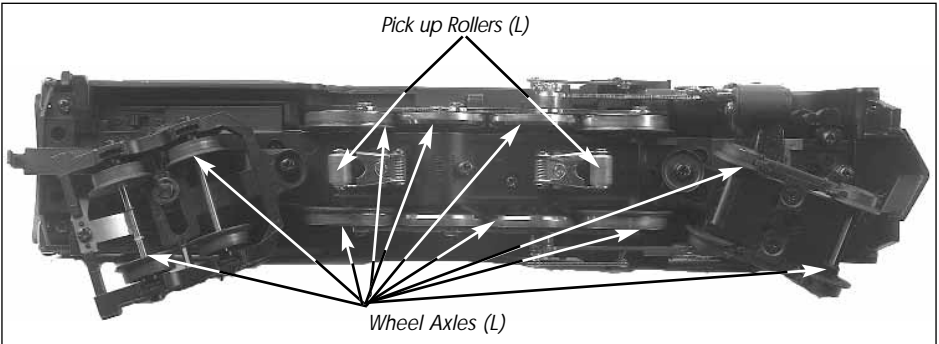

Figure 2 - Lubrication Points on the Engine
3. You should lubricate all side rods and linkage components and pickup rollers to prevent them from squeaking. Use light household oil and follow the lubrication points marked "L" in Fig. 2 on page 9. Do not over oil. Use only a drop or two on each pivot point.
This engine should be oiled and greased in order to run properly. You should regularly lubricate all side rods and linkage components and pick-up rollers to prevent them from squeaking. Use light household oil and follow the lubrication points marked "L" in Figure 2. Do not over oil. Use only a drop or two on each pivot.